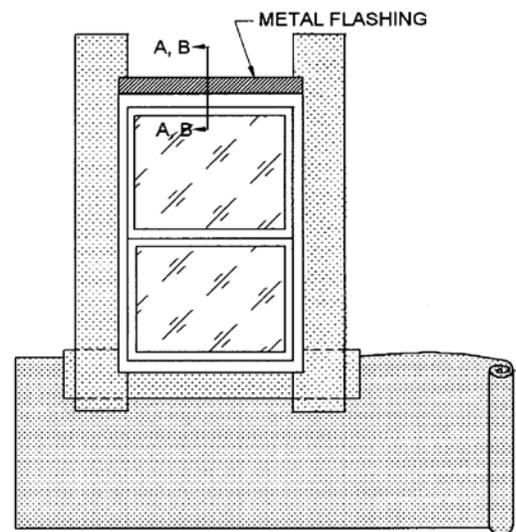

Fig. 23.1
1. Install rolls horizontally in a shingle fashion working from bottom to top. Each succeeding course should overlap the previous course 2 in. (51mm) minimum or in accordance with manufacturer’s instructions. ParexUSA suggests marking the location of the sheathing board joints on the Water-Resistive Barrier as you proceed up the wall. These markings can be used as a reference to prevent the alignment of the insulation board joints and the sheathing board joints. **NOTE:** The strips of Water-Resistive Barrier previously installed at the sill and jambs overlap the Water-Resistive Barrier below the sill for positive drainage (Fig 23.1).